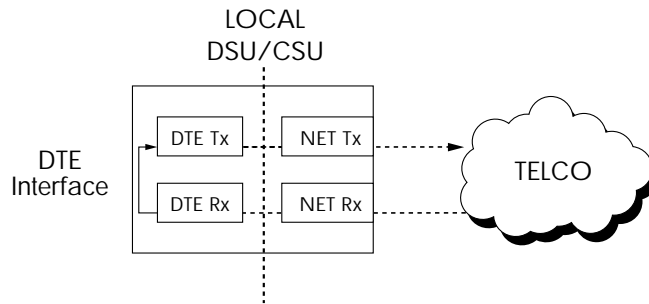

Figure 12-6
The Loop Only (RT) test allows the loop interface and a major portion of the DTE interface for the local DSU IV ESP to be tested from the remote site over the actual communication circuit. Figure 12-6 illustrates the loopback point and the signal paths for this test.